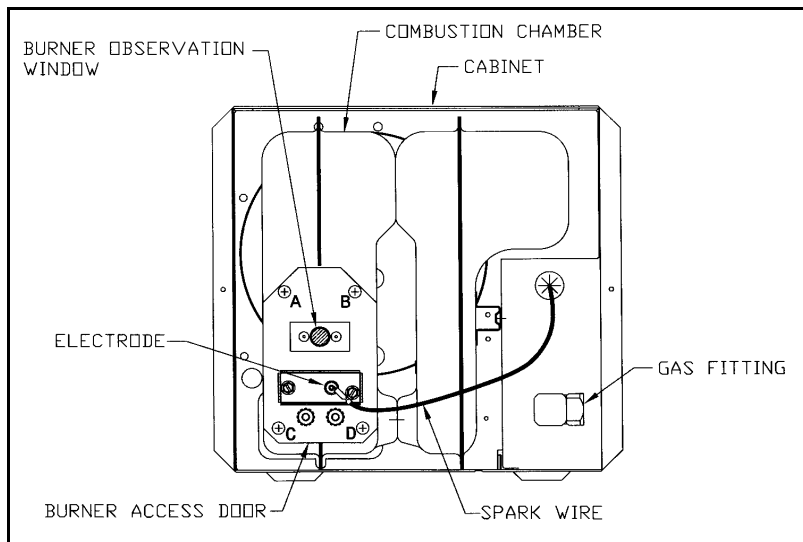
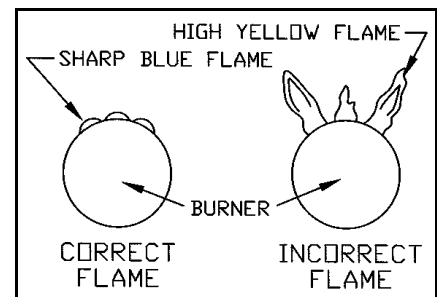

Figure 11
Figure 12
3. Periodically observe the main burner flame to assure it is burning with a hard blue flame with well defined burner ports (See Figure 12). If flame appears yellow or burner has a lazy flame, shut furnace down. It is possible that burner needs cleaning or replaced. To inspect the main burner, remove the four (4) screws (A, B, C and D) securing the burner access door to the combustion chamber (See Figure 11). If excessive rust and corrosion are present on burner surface, the burner must be thoroughly cleaned or replaced. The burner may be cleaned using a steel wire brush and blown clean using high compression air. Contact a qualified service person for assistance.
NOTE: To observe flame, cabinet front must be removed. Operation of burner can then be observed through the viewing window on front of chamber (See Figure 11).